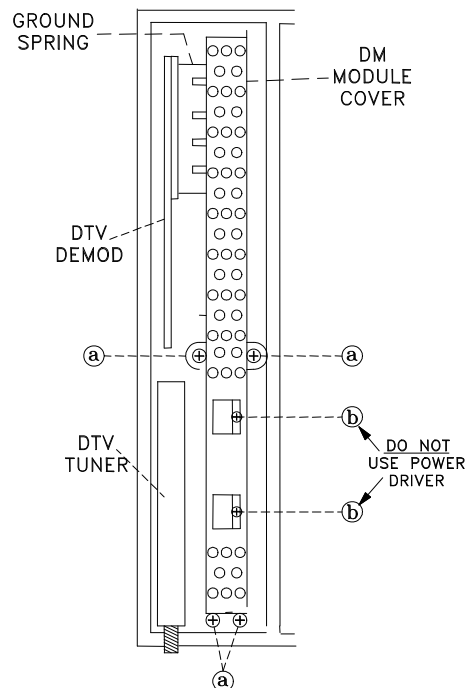

Figure 2: DM Module Cover
3. Remove screws (a) and (b) to remove the DM Module Cover, *Figure 2*.